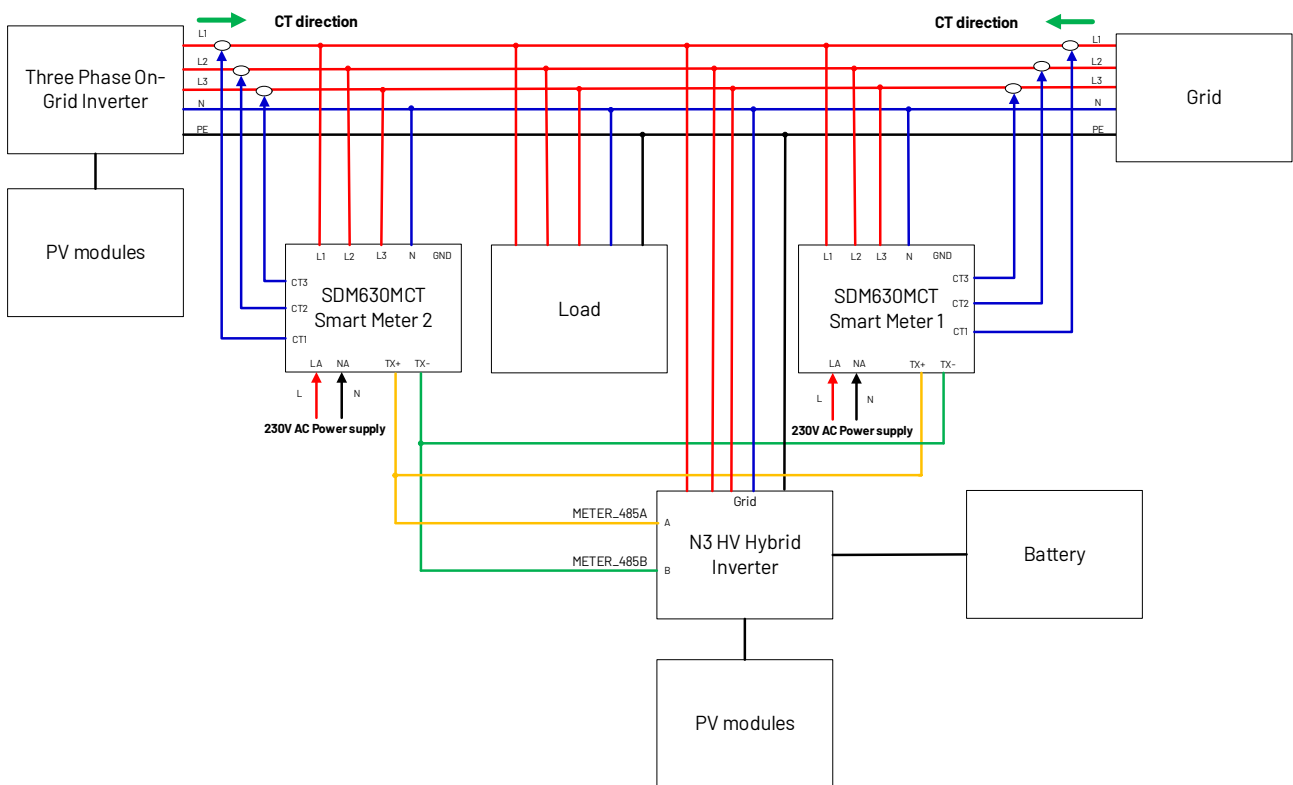

Figure 5-24 Connect one On-Grid three-phase inverter
- 4) Connect one On-Grid three-phase inverter(Figure 5-24): The local address needs to be set as "001" on the inverter screen, and meter1 address set as "001", meter2 address set as "002". The address of meter1 itself needs to be set to "001", and meter2 needs to be set to "002".